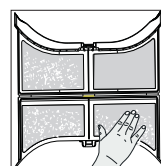

Fig5
- 3.Open the filter and remove the fluff on the filter, You can clean it in water. (Fig5)